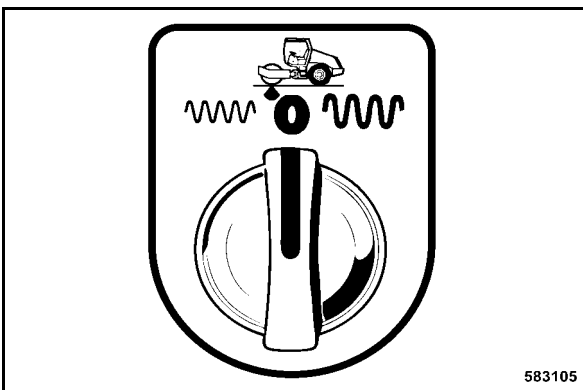

Fig. 67
- After the end of work turn the vibration amplitude preselecting switch (Fig. 67) back to position "0".